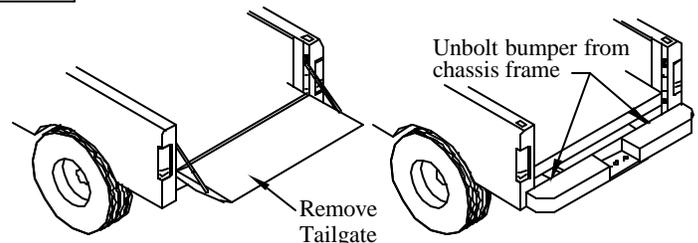

Figure 2 : Tailgate and bumper removal.
- Step 1: **Remove** the tailgate (**Figure 2**).
- Step 2: **Remove** the rear bumper (**Figure 2**).